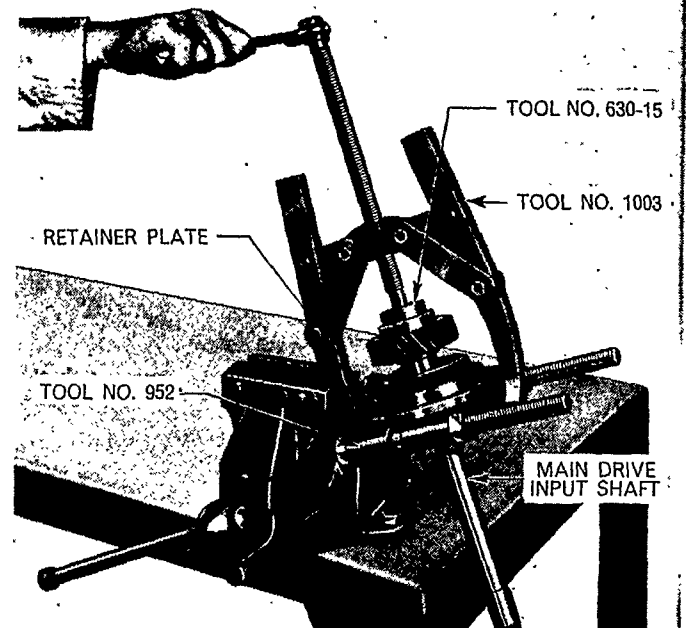

Figure 19
5. Pass the input shaft through the retainer plate and mount the assembly in Tools Nos. 1003, 952 and 630-15, Figure 19.